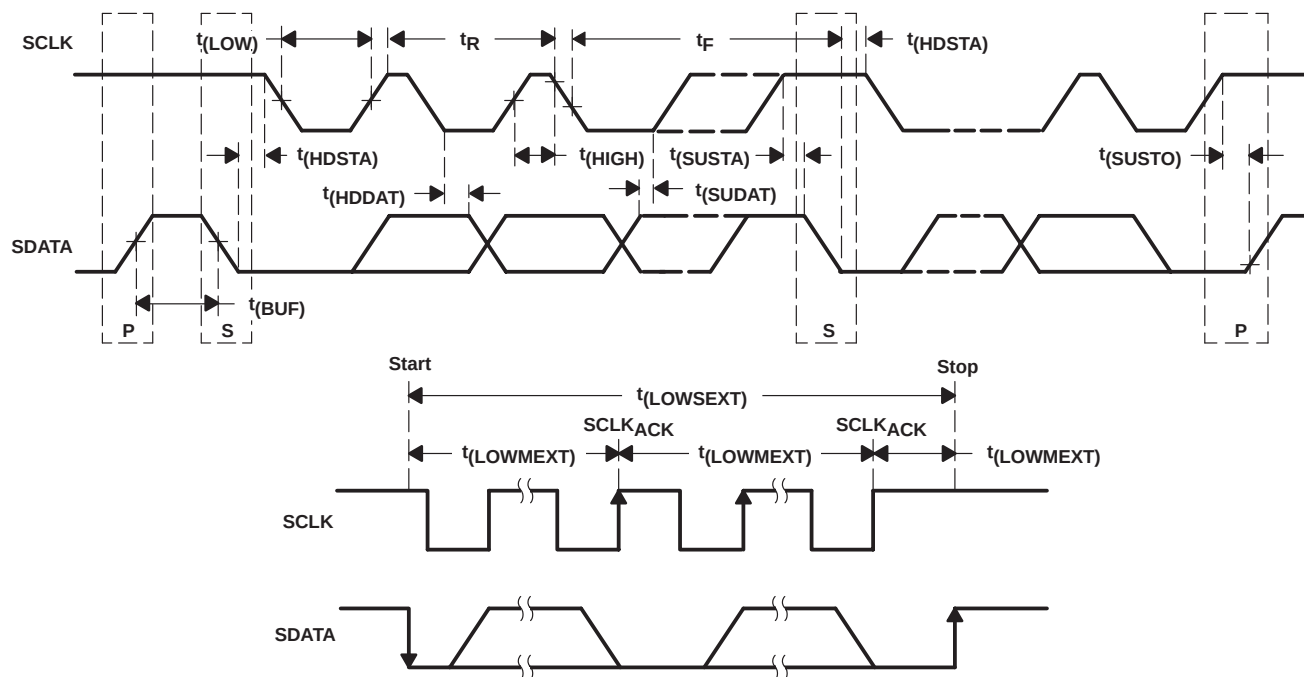
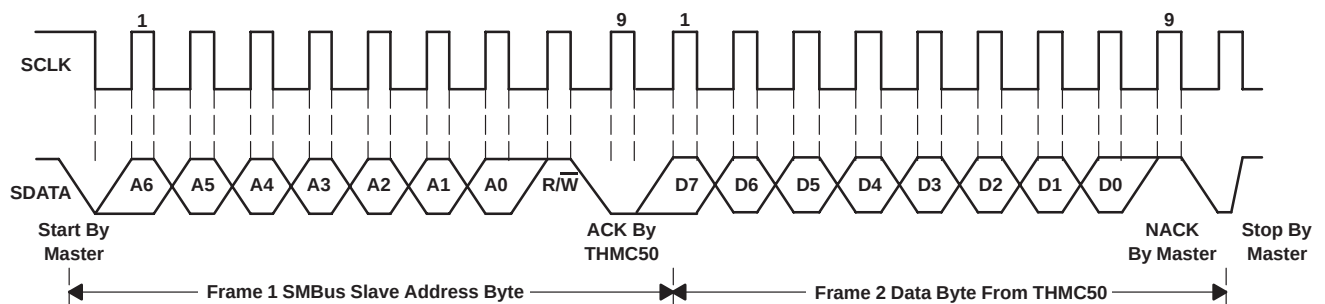

Figure 1. SMBus Timing Diagram
Figure 5. SMBus Timing Diagram for Recieve Byte Format
1. If the internal address register is known to be at the desired address, simply read the THMC50 with the SMBus interface address byte, followed by the data byte read from the THMC50 (see Figure 5).
Refer to Figure 1 through Figure 5 for the SMBus timing diagrams. The THMC50 does not support the $\overline{\text{SMBUS}}$ or $\overline{\text{SMBALERT}}$ sideband signals referenced in the SMBus specification.